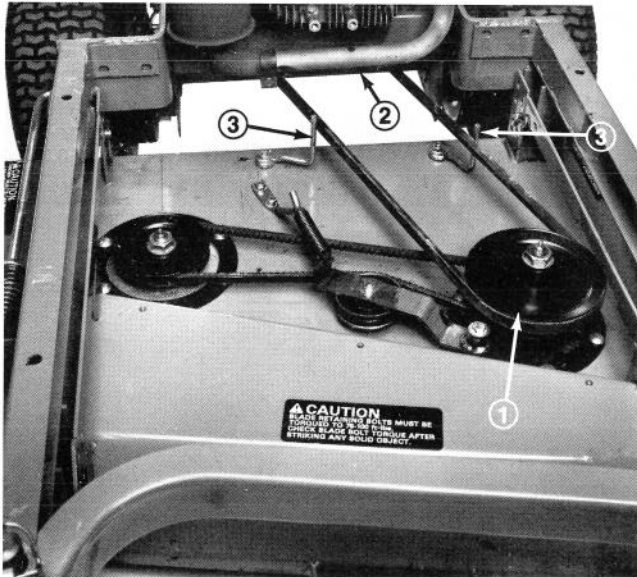

Figure 3
2. Route belt around deck drive pulley and engine clutch pulley (Fig. 3).
4. Check position of belt guides. Guides should be positioned so rod edge is approximately .10 inch from back side of belts (Fig. 3).